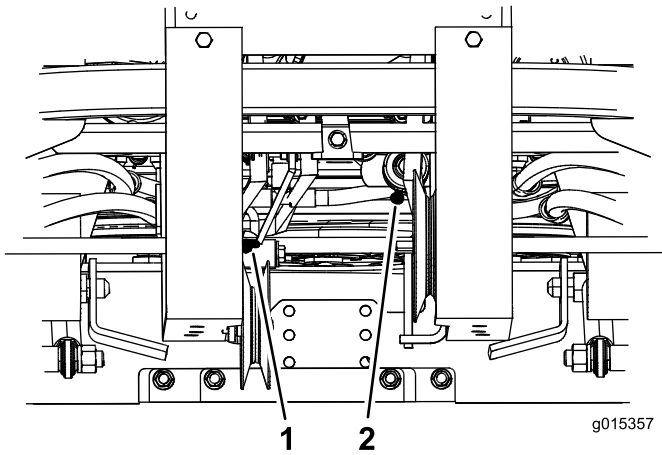

Figure 37
4. Grease the idler pulley pivots for the mower deck belt and the pump drive belt (Figure 37).